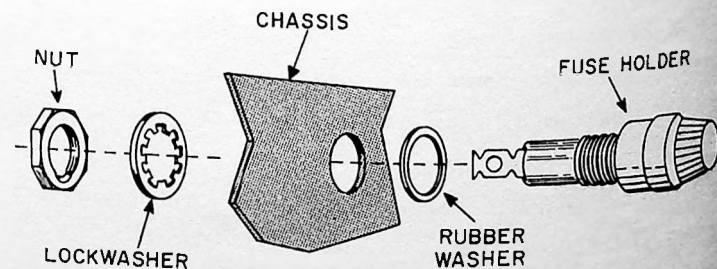

FIGURE 8. FUSE HOLDER MOUNTING
- Fuse holder. Position with the terminals as shown. Mount as shown in Figure 8.